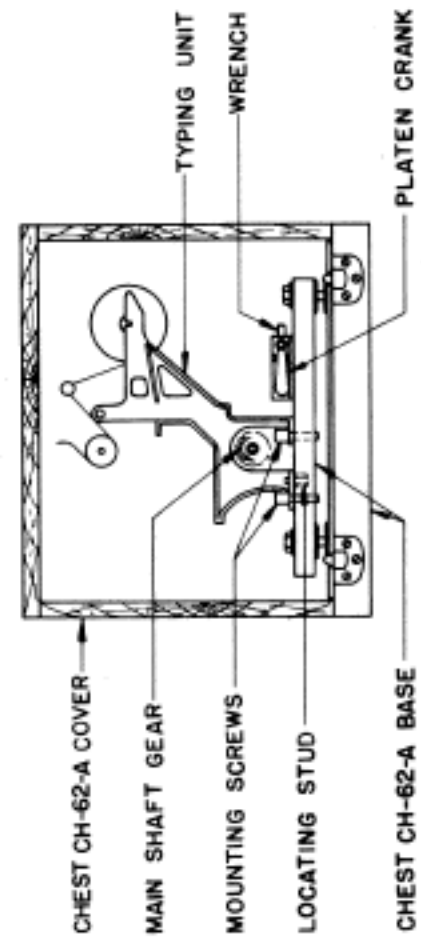

FIGURE 4.
5. PLACE TYPING UNIT ON CHEST CH-62-A BASE AS SHOWN IN FIGURE 4, AND INSTALL THE FOUR MOUNTING SCREWS. TIGHTEN MOUNTING SCREWS WITH WRENCH AND REPLACE WRENCH IN HOLDER ON BASE.